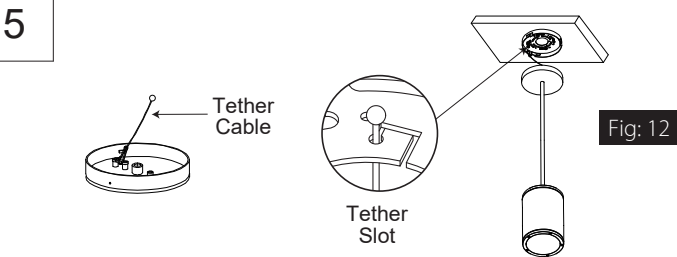

Fig: 12
5. Connect the Tether Cable on the canopy to the Tether Slot in the Junction Box Adapter Plate. (Fig. 12)